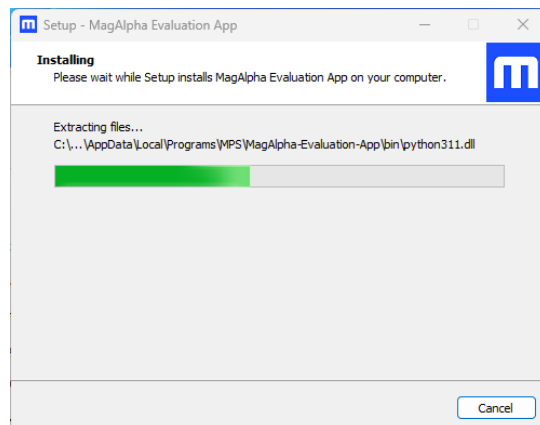

Figure 13: Installation Wizard (Installing)
6. Wait for installation to be complete (see Figure 13).